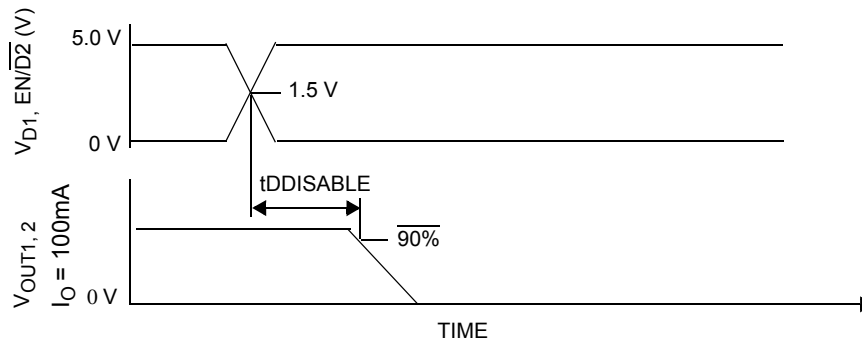

Figure 5. Disable Delay Time
25. * Disable Delay Time measurement is defined in Figure 5, page 9.